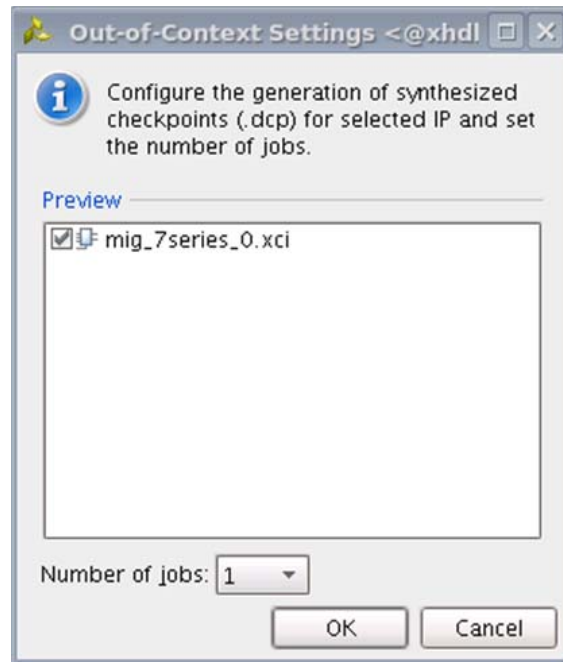

Figure 1-30: **Out-of-Context Settings Window**
2. Click **Out-of-Context Settings** to configure generation of synthesized checkpoints. To enable the **Out-of-Context** flow, enable the check box. To disable the **Out-of-Context** flow, disable the check box. The default option is "enable" as shown in Figure 1-30.